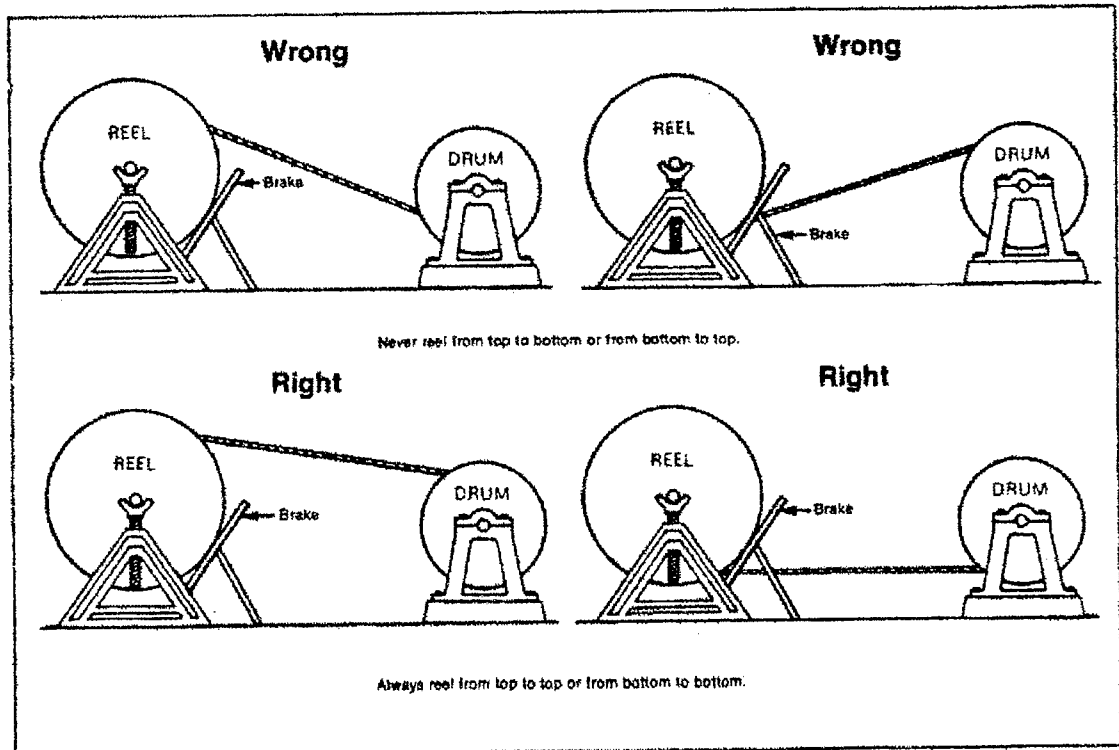

Fig. 2-11 Methods of winging rope from reel to drum, or reel to reel
- a. When removing wire rope from a shipping reel, the reel must be allowed to rotate as the rope is hauled off. If the reel is restrained, kinks will develop and ruin the rope. When spooling a rope onto a drum, never allow it to go through a reverse bend, i.e., never go from the top of the reel to the bottom of the drum. Unspool from the top of the reel to the top of the drum or from the bottom of the reel to the bottom of the drum. (See **Figure 2-11.**) A reverse bend will injure the rope.